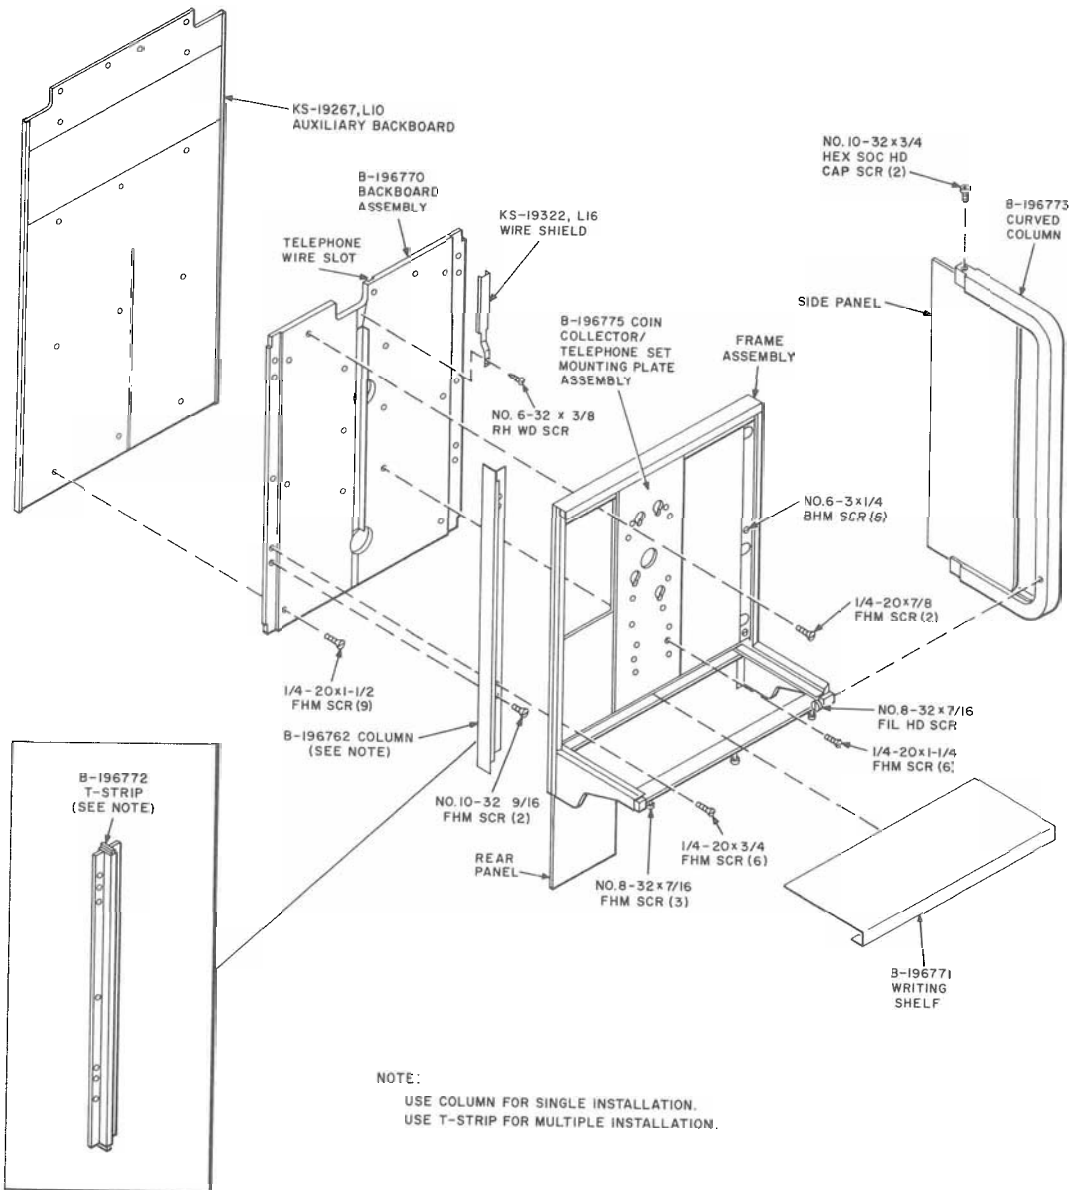

Fig. 7—Assembly of KS-19267 Shelf
**3.03** Secure B-196770 backboard assembly to List 10 auxiliary backboard, if applicable, using nine 1/4-20 by 1-1/2 FHM screws (Fig. 7).
**3.04** Install KS-19322 sign if applicable and cover exposed electric power cord between sign and shelf with KS-19322, List 16 wire shield (Fig. 7).
*Where multiple units are installed, a B-196772 T-strip will be used to join two shelves together. This T-strip will replace the side column. T-strips are furnished as part of KS-19267, List 2 and List 4 shelf assemblies (Fig. 7).*
(b) Remove the following per Fig. 7:
**4.06** Refer to Fig. 7, 8, and 9 and Tables A and B for replacement parts.